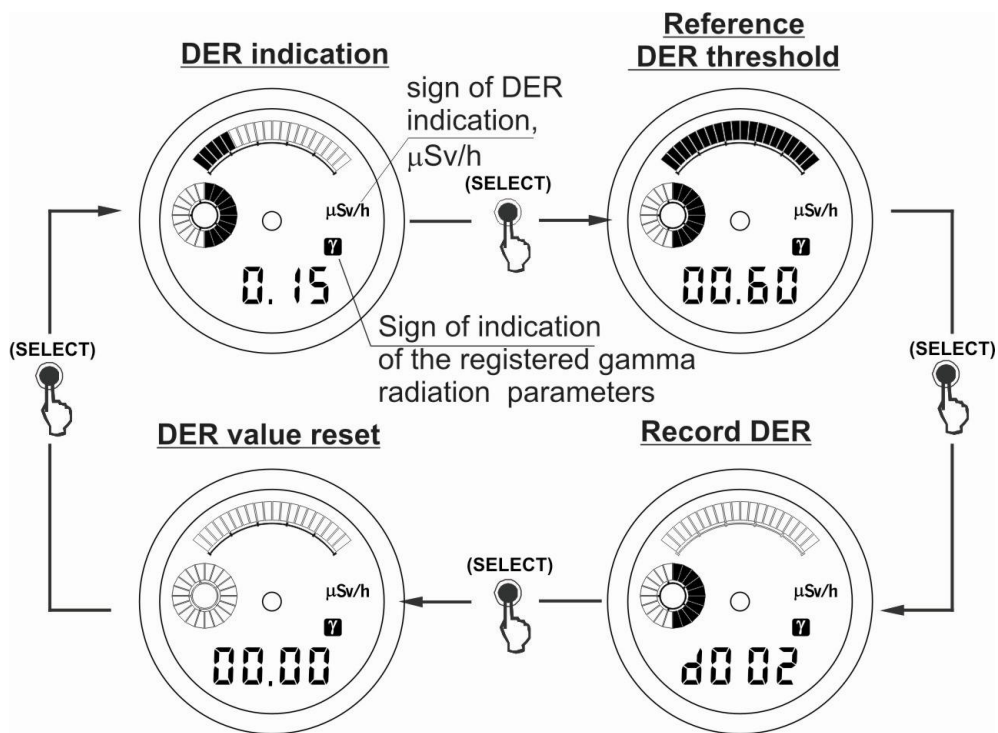

Fig. 3.3
3.2.4.1 Two short pressings of button 2 (SELECT) switch over from DER value indication to the mode of recording the DER registration history (Fig.3.3). The display will show the number of an expected reading (the cell number where the current DER value will be recorded). The recording of the current DER value is performed by short pressing of button 1 (MODE). The display will show the next number of the memory cell (increased by 1) where the next DER value will be stored. The indication “d - - -“ means that the memory is full, i.e. 500 readings were stored. To store and to view the stored history it is necessary to use the PC communication mode (see clause 3.2.6). The counter of readings may be reset while in the set mode. After the counter is reset (if information in the memory was not transmitted to PC) then each new reading will be stored in the memory instead of the old one.
3.2.5.1 Three short pressings of button 2 (SELECT) switch over from the DER indication to the DER registration start mode (Fig.3.3). The LCD will show non- flashing digits 00.00  $\mu\text{Sv/h}$ .